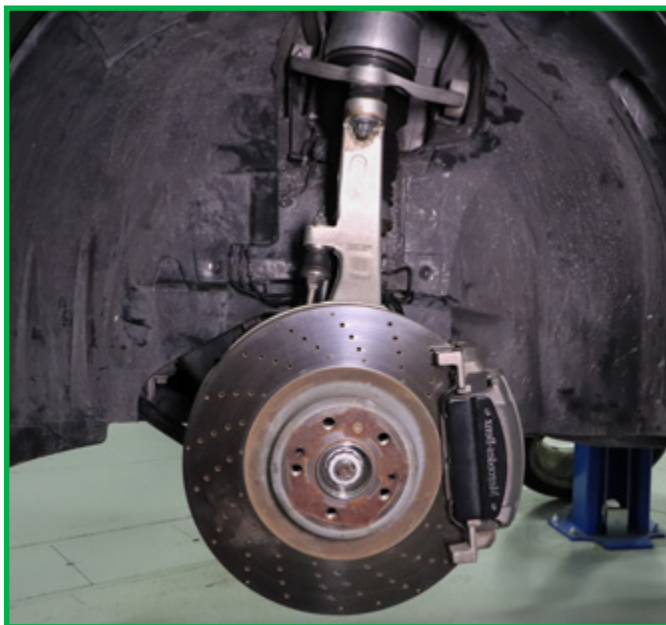

FIGURE 1
3. Remove front wheel. (Figure 1)